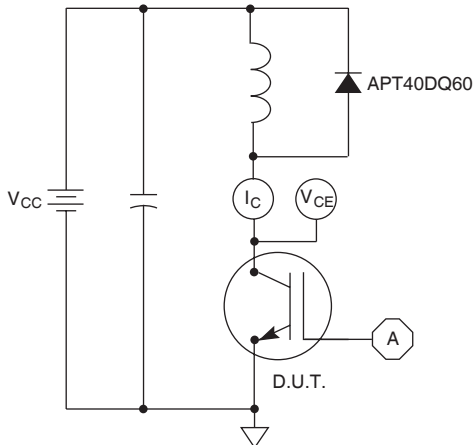

Figure 21, Inductive Switching Test Circuit
① Repetitive Rating: Pulse width limited by maximum junction temperature.
② For Combi devices, I_{ces} includes both IGBT and FRED leakages
③ See MIL-STD-750 Method 3471.
④ E_{on1} is the clamped inductive turn-on energy of the IGBT only, without the effect of a commutating diode reverse recovery current adding to the IGBT turn-on loss. Tested in inductive switching test circuit shown in figure 21, but with a Silicon Carbide diode.
⑤ E_{on2} is the clamped inductive turn-on energy that includes a commutating diode reverse recovery current in the IGBT turn-on switching loss. (See Figures 21, 22.)
⑥ E_{off} is the clamped inductive turn-off energy measured in accordance with JEDEC standard JESD24-1. (See Figures 21, 23.)
⑦ Continuous current limited by package lead temperature.